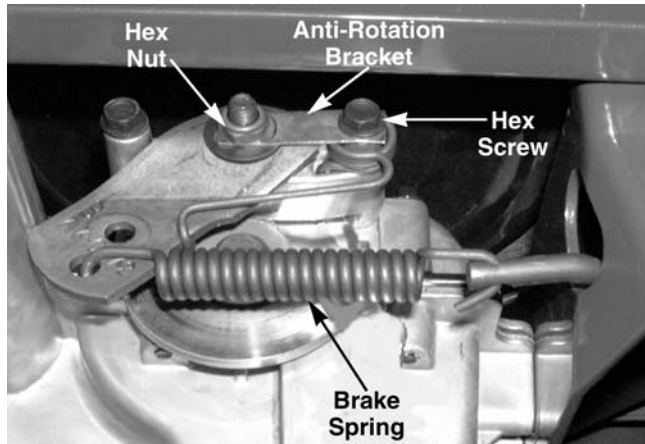

Figure 9-30
13. Remove the locking hex nut from the brake actuation arm on the transmission. See Figure 9-30.
rotation bracket to the brake assembly using 3/8 wrench. See Figure 9-30.
17. Remove the brake spring from the brake actuation arm. See Figure 9-30.